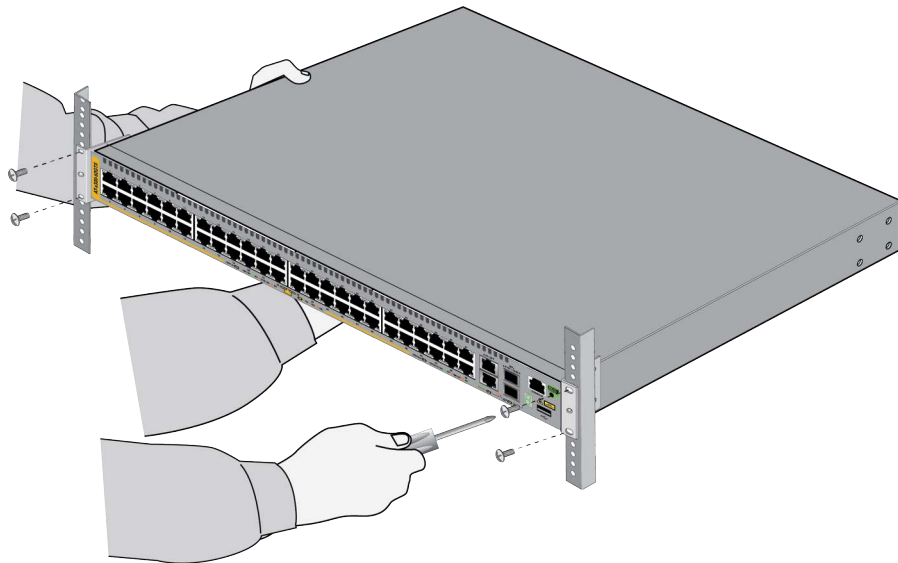

Figure 46. Securing the x330-52GTX Switch in a Standard 19-inch Equipment Rack
3. Have another person hold the switch at the selected location in the equipment rack while you secure it using four standard equipment rack screws (not provided). Refer to Figure 46.